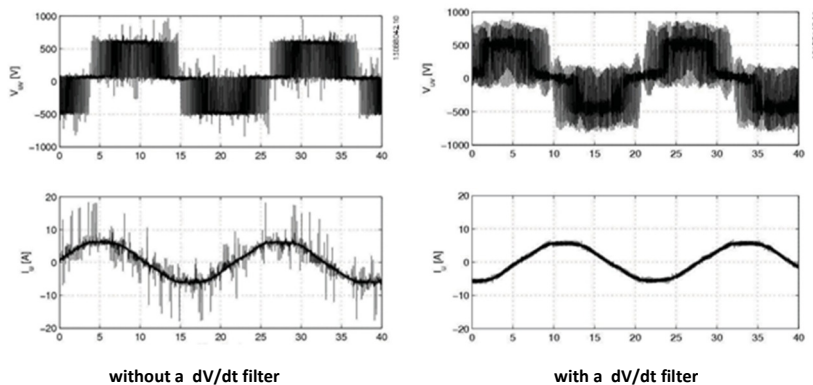

Fig.5 Comparison of Voltage and Current waveforms – without and with a dv/dt Filter
- A dV/dt filter reduces the frequency of the ringing oscillation below 150kHz as shown in figure 5.